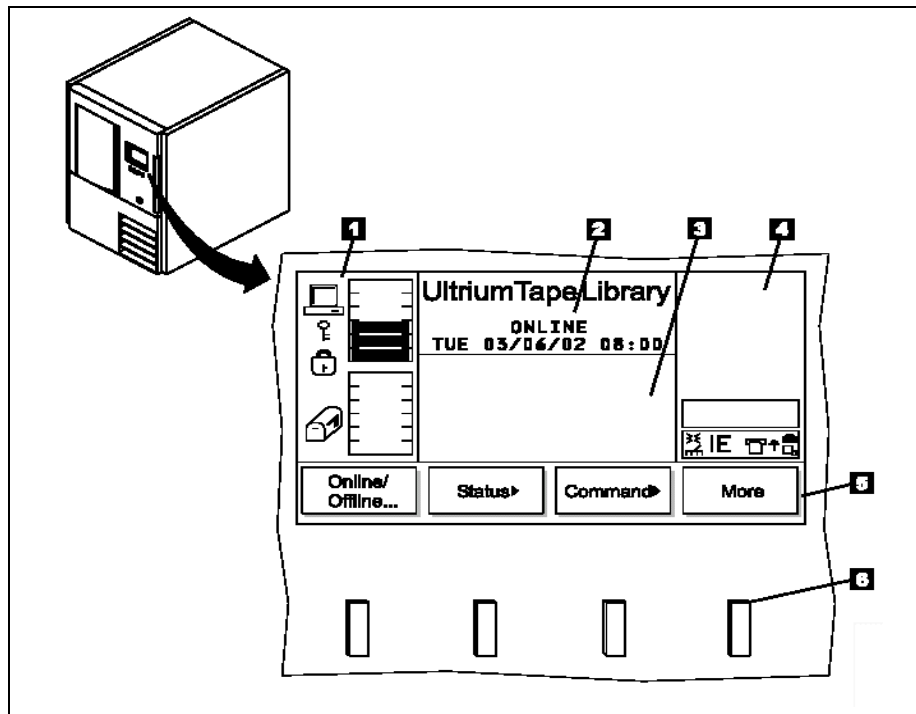

Figure 18-5 IBM 3583 Operator Panel
As shown in Figure 18-5 on page 489, the IBM 3583 Operator Panel has six discrete areas:
- ▶ The I/O station status area provides constant information about the I/O station (label 1 in Figure 18-5 on page 489). The information provided states whether the I/O station is locked. The status of the I/O door and a physical representation of an occupied I/O station slot are indicated by a blacked-out area.
- ▶ The library status area displays informational status, such as the library’s online or offline status, and the library reports status or messages to solicit operator intervention (label 2 in Figure 18-5 on page 489).
- ▶ The message area displays six lines of text, graphic representations, or a combination of both (label 3 in Figure 18-5). Each text line can be up to 20 characters long. The display communicates interactive dialogs, special messages, alerts, and library configurations. More details are in “Using the Operator Panel Menu” in *IBM TotalStorage 3583 Tape Library 3583 Setup and Operator Guide for Multi-Path Libraries*, GA32-0411.
- ▶ The drive status area (label 4 in Figure 18-5) provides constant information about the drives, such as:
- ▶ The soft keys reference the push buttons located beneath them. They are used to perform the commands displayed in the soft keys area and to move through the various displays of the Operator Panel (label 5 in Figure 18-5).
- ▶ Push buttons (label 6 in Figure 18-5) are the actual physical buttons that perform the commands referred to by the soft keys located above each one of them.